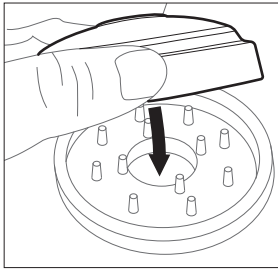

Figure 2
- b. Snap the filter cover and filter onto the filter holder (Figure 2).